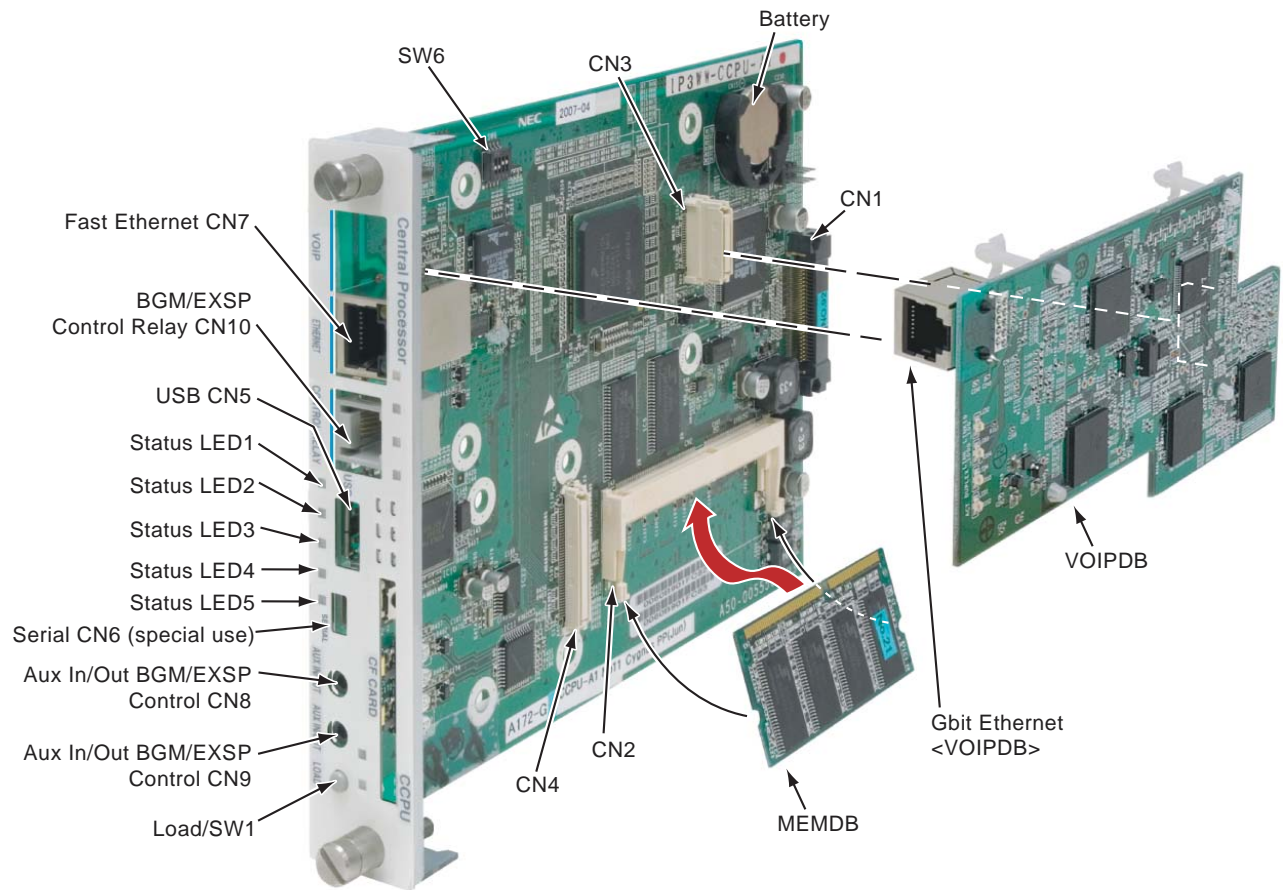

Figure 2-4: CCPU BLADE LAYOUT
2.4.1 UX5000 Central Processing Unit (CCPU) Blade (Figure 2-4 - Figure 2-5) - P/N 0911001